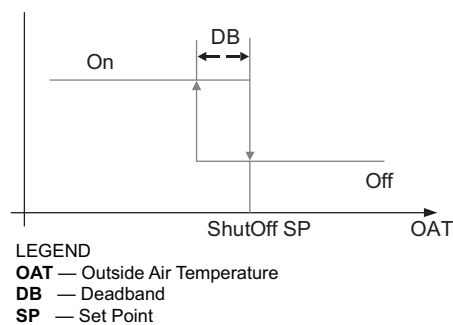

Fig. 81 — Hysteresis Settings
Hysteresis setting (DB) defaults to 2°F (–16.6°C). See Fig. 81.